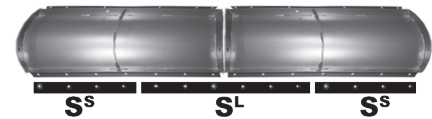

fig.4
4. Attach the scraper (three pieces, a long, SL and two short ones, SS; fig.4, at left) to the front lower edge of the full blade using 25 mm (1") x M10 grade 8 carriage bolts, 10 mm washers, and M10 Nylock nuts (fig.5). The long piece of the scraper overlaps both halves of the blade. The shorter piece fills in the rest. The carriage bolts are inserted so that their domed caps are at the front of scraper, which lies on the lower front (concave side) edge of the blade. The nuts screw on from the back (convex) side of the plow blade. Tighten the nuts.